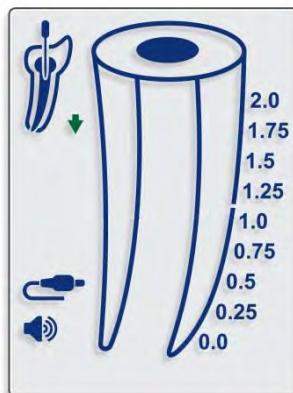
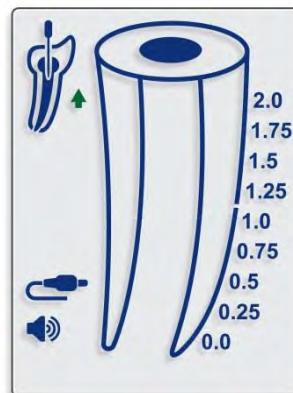

Fig. 5
Fig. 6
- 7.4.10. Movement of the file inside the canal is reflected by the DOWN (Fig. 5) and UP (Fig. 6) arrows on the screen.